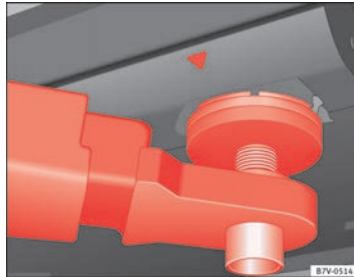
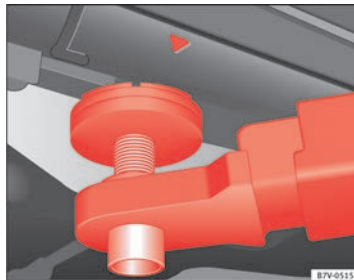

Fig. 127 Front jacking points for raising vehicle with lifting platform or jack
Fig. 128 Rear jacking points for raising vehicle with lifting platform or jack
Always use the jacking points indicated in the figures ⇒ Fig. 127 and ⇒ Fig. 128 when raising the vehicle. If the vehicle is not lifted at these points, it could be seriously damaged ⇒ ⚠ or lead to serious injury ⇒ ⚠.
- Only use the jacking points indicated in the figures ⇒ Fig. 127 and ⇒ Fig. 128 when raising the vehicle. If the vehicle is not lifted at the indicated points, it may fall from the platform while the engine or gearbox is being dismantled, for example.